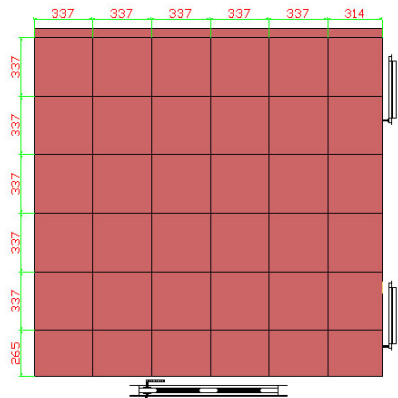

Fig. 207 – a projection of tiles with added dimensions
- now dimensions can be added (Fig. 207).